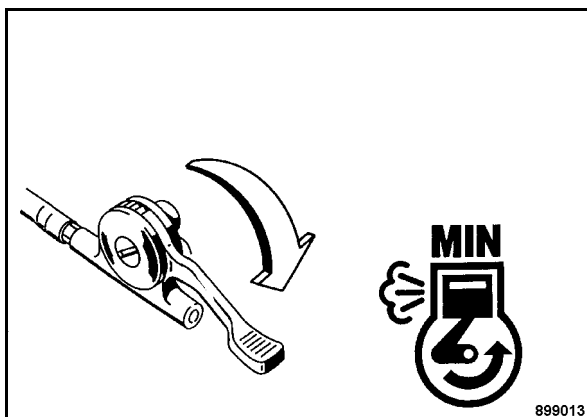

Fig. 47
- Shift the throttle lever (Fig. 47) back to position "MIN".